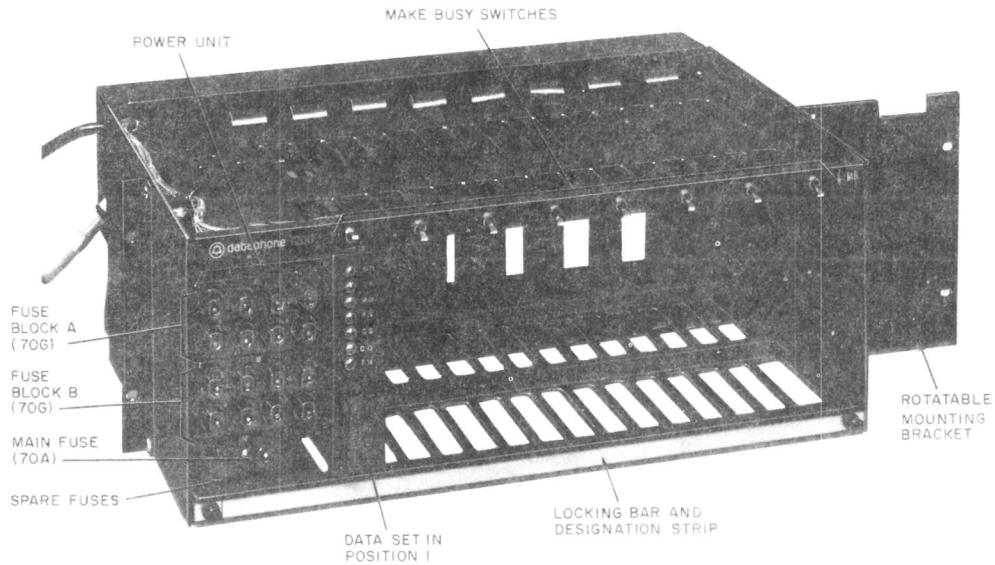

Fig. 3—40A1 Data Mounting (Front View)
**2.03** The 40A1 data mounting shown in Fig. 3 accommodates up to eight data sets 202S-type (with or without reverse channel). The data mounting consists of a metal framework, an
**2.05** The 24 Vac for each data set and the relays on the backplane are supplied by the power unit located on the left side of the mounting (Fig. 3). The power unit consists of an enclosure, 2 power transformers, a main fuse (type 70A), 16 output fuses (type 70G), and a 4-foot line cord. Each side of the center-tapped 24-Vac line to each data set is fused separately and labeled A for one side and B for the other; for example, the fuses for data set number 1 would be labeled 1 on fuse block A